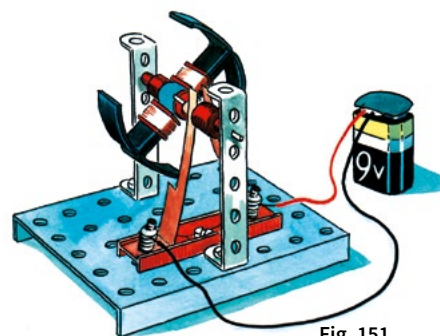

Fig. 151
1. Connect the rotor via the brushes to the battery, as shown in fig. 151.